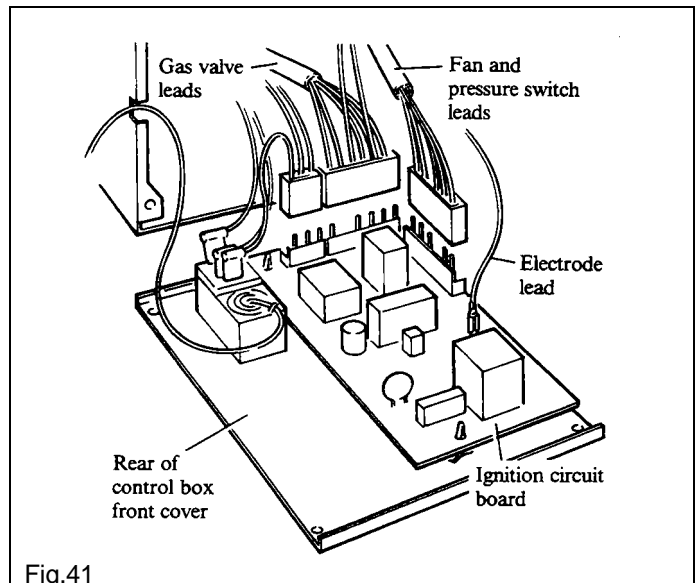

Fig.41
Refer to Fig. 41.
3. Disconnect the three wiring connectors and the electrode lead from the circuit board, see Fig. 41.